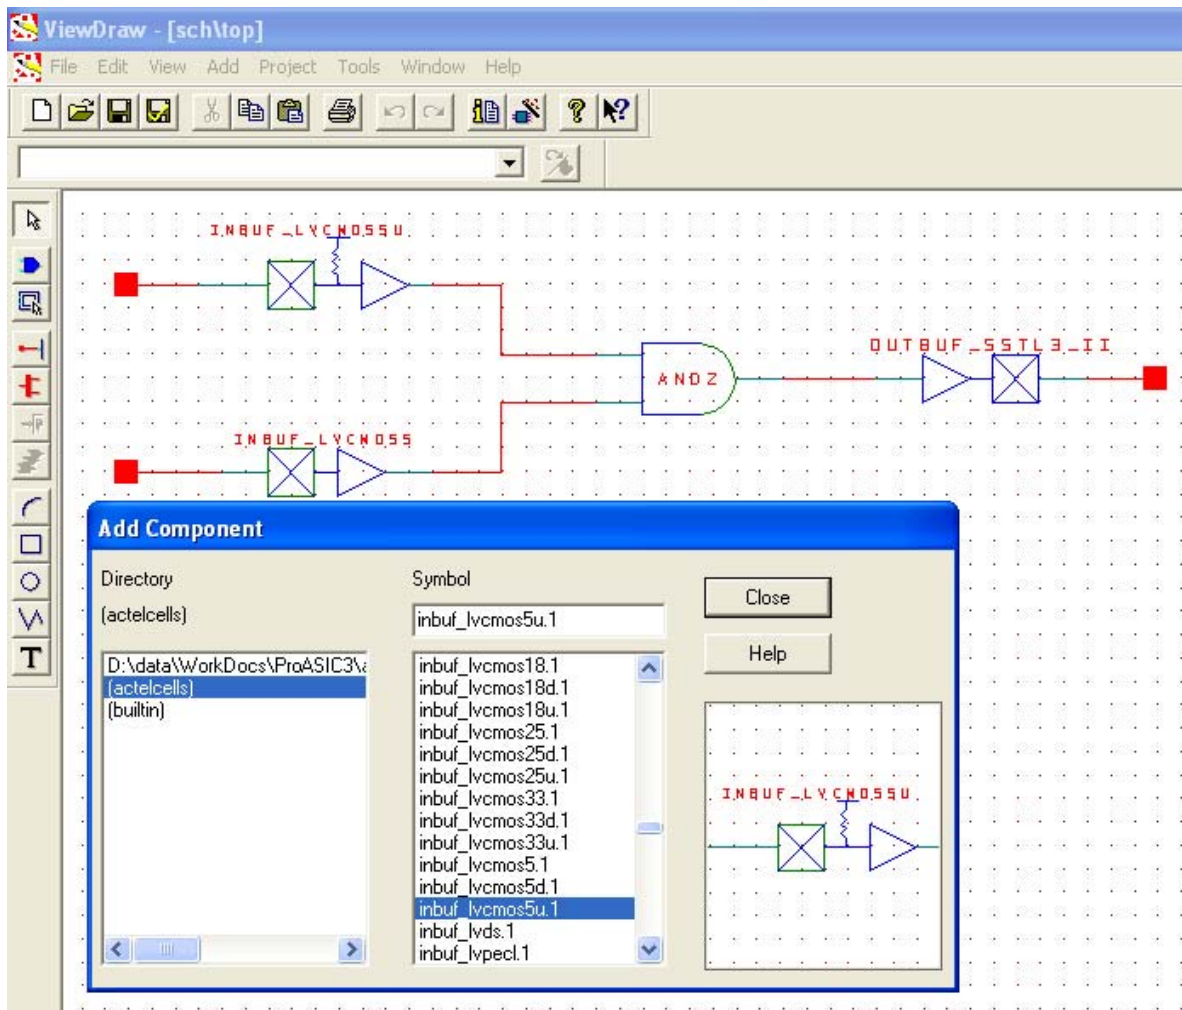

Figure 8-5 • I/O Buffer Schematic Cell Usage
- Enter a name for the macro. Click **OK**. The core will be generated and saved to the appropriate location within the project files (Figure 8-5 on page 203).
Libero SoC software includes the ViewDraw schematic entry tool. Using ViewDraw, the user can insert any supported I/O buffer cell in the top-level schematic. Figure 8-5 shows a top-level schematic with different I/O buffer cells. When synthesized, the netlist will contain the same I/O macro.